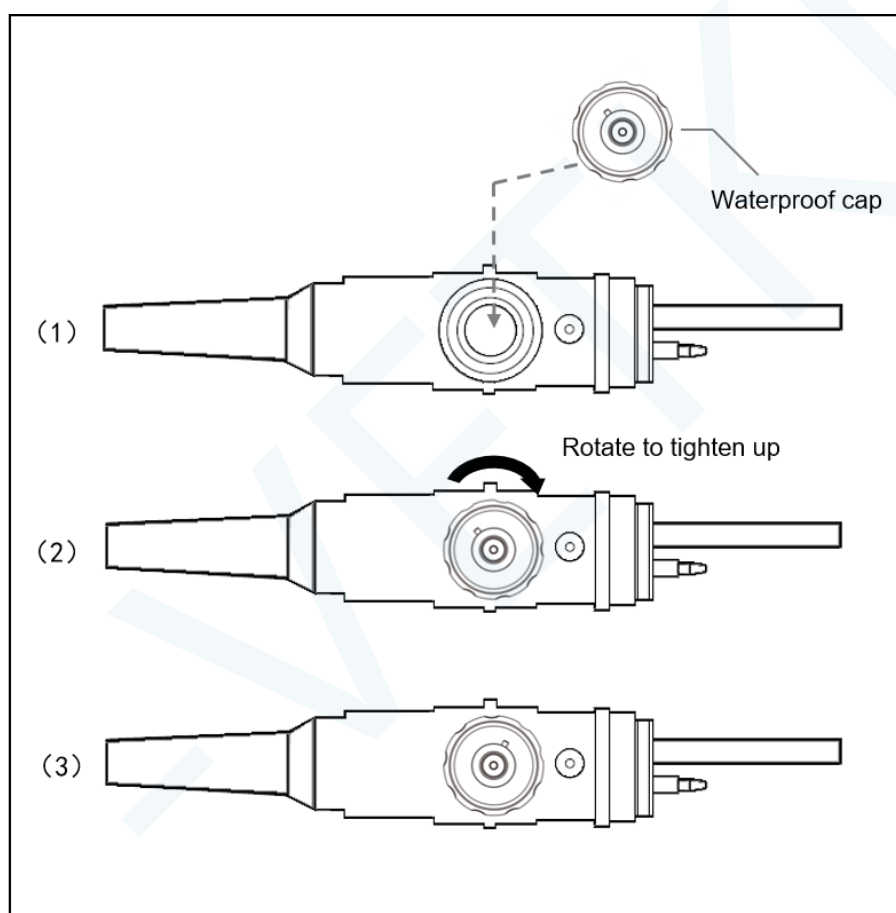

Figure 7.8
3. Press the waterproof cap and rotate clockwise for approximately 45°, as shown in Figure 7.8 (1) (2) (3).